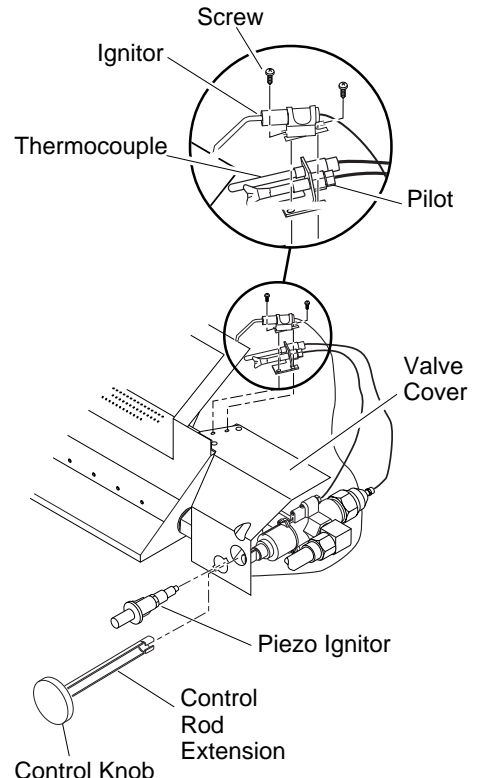

Figure 14 - Installing Cover, Control Knob, and Piezo Ignitor
10. Install thermocouple, pilot, and ignitor onto valve cover as shown in Figure 14. Use the provided screws.